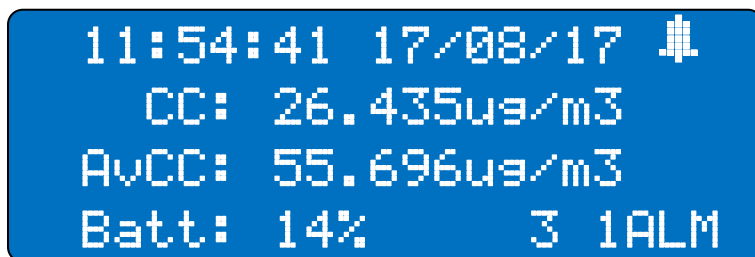
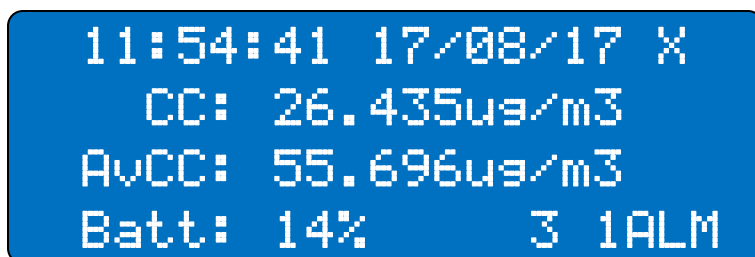

Figure 28 Buzzer un-muted as displayed on the LCD
Figure 29 Buzzer muted as displayed on the LCD
The buzzer will beep once if the power button is pressed. When pressed once, user can mute the buzzer (if buzzer was un-muted) or un-mute the buzzer (if the buzzer was muted). If muted, the buzzer will not sound for any alarm conditions or Bluetooth connection. The LCD will show (X) for muted or (🔊) for unmuted on the top right corner of the screen, as shown in **Figure 28** and **Figure 29**.